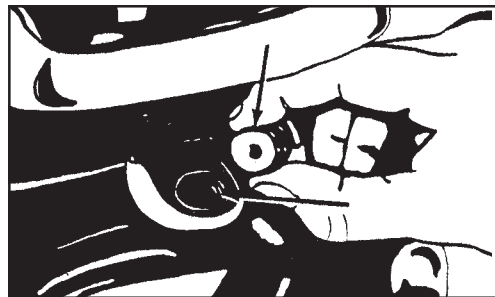

Figure 7
1. To clean the ventilation opening in the center of the plug, remove the plug from the machine. With the plug removed, also inspect the grease in the gearbox. See figure 7.